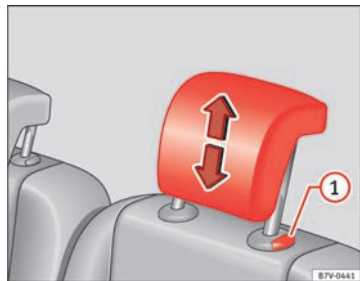

Fig. 88 Fitting the head restraints in the second or third row of seats
- Pull out the head restraint ⇒ Fig. 88 ① with the button pressed.